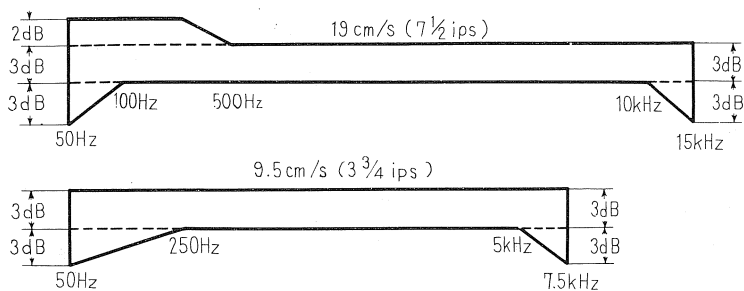

Fig. 28
- 2. Response deviation should be within the range shown in Fig. 28.